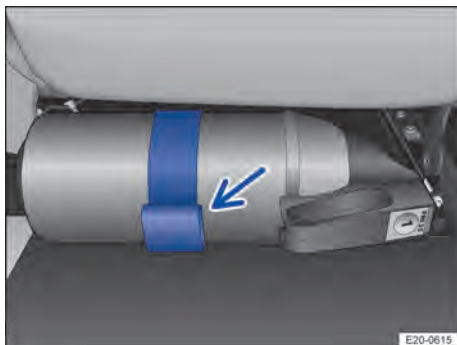

Fig. 45 Under the front passenger seat: Bracket with fire extinguisher (illustration).
1. Open the tab on the bracket and remove the fire extinguisher → Fig. 45 (arrow).